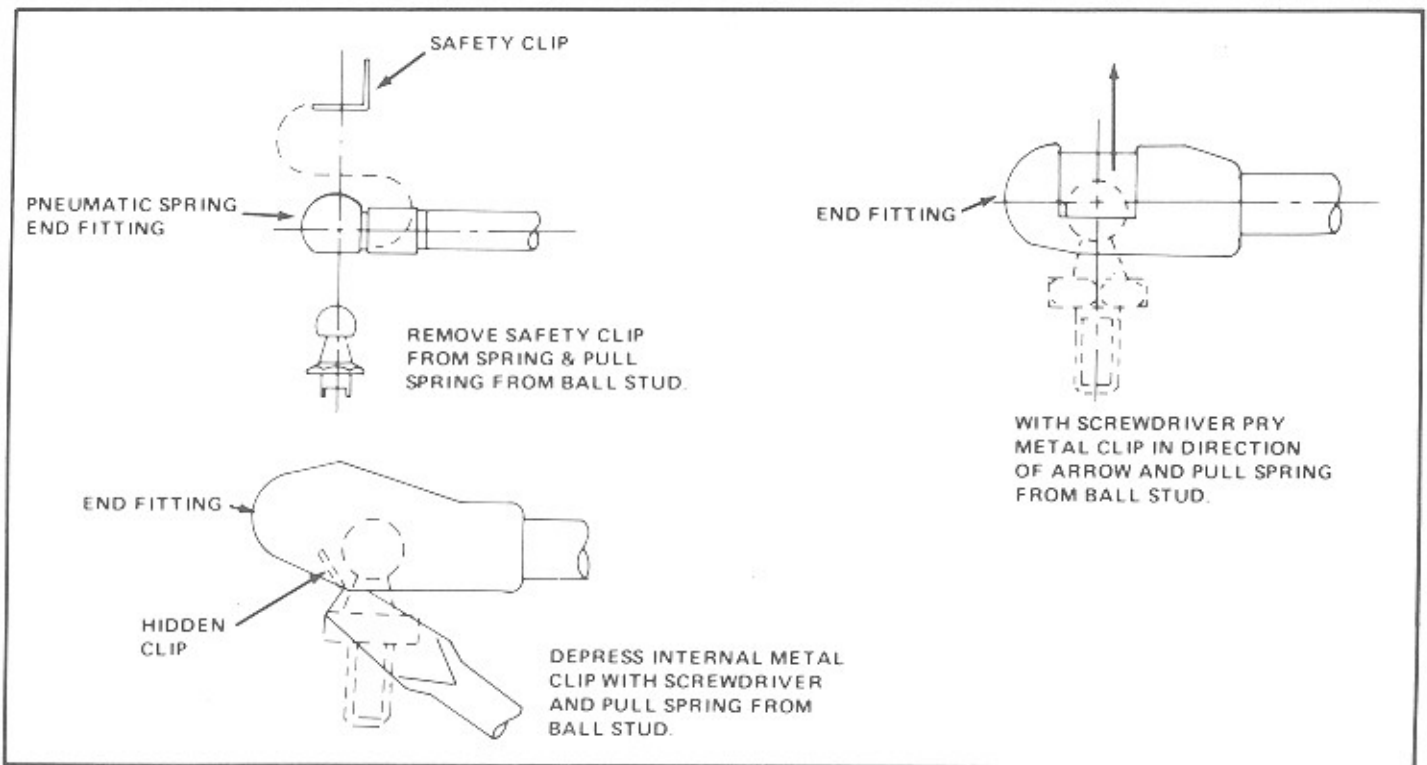

Figure 3-9. Door Spring Fittings
2. While another person keeps the door open, find the appropriate style spring end fitting in figure 3-9 and follow the example given.